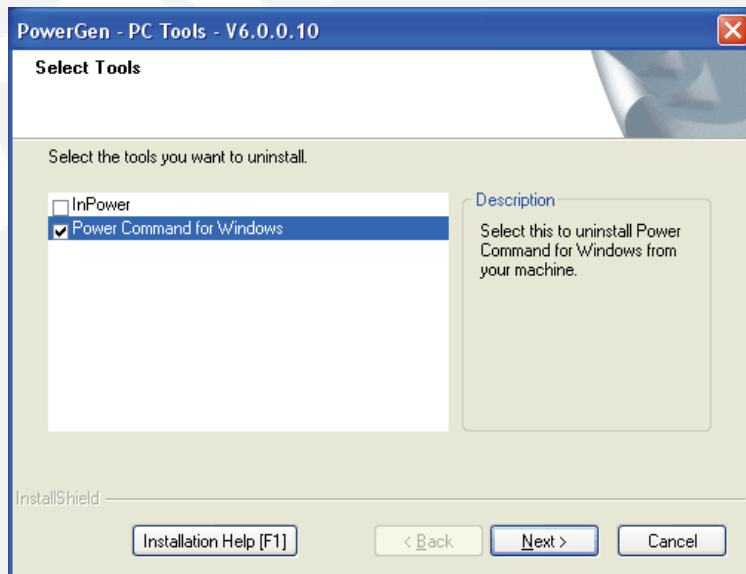

FIGURE 2-54. UNINSTALL PCW
2. The program begins and displays the *Select Tools* window. Click inside the checkbox next to PowerCommand for Windows. Figure 2-54. Then click on the **Next** button to continue. Use the **Cancel** button to stop the uninstall program.